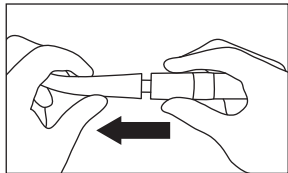

Fig. 15
- 6) Remove the handpiece from the motor. (Fig. 15)